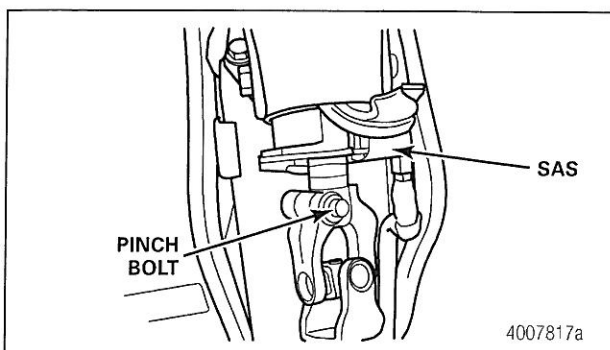

Figure 7
4. Remove the shroud that covers the lower portion of the steering column. This exposes the connection between the steering shaft and the I-shaft. The steering angle sensor is mounted just above this joint. Figure 7.
6. Note the position of the SAS wiring harness connector (Figure 7) — either facing UP or DOWN. The new SAS will need to be positioned the same way when installed. Disconnect the wiring harness connector from the SAS.